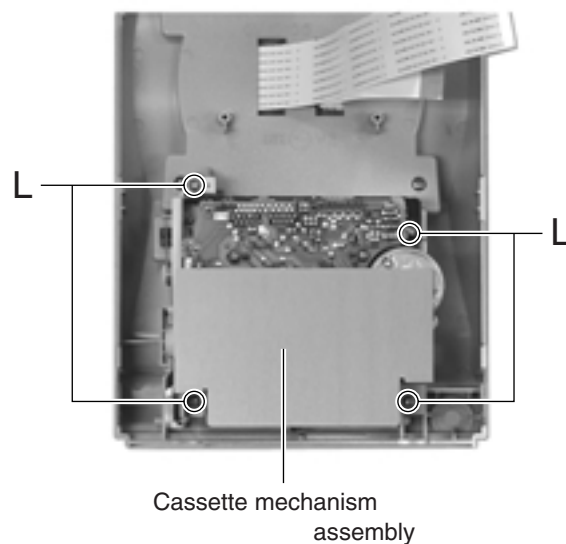

Fig.18
■ Removing the Cassette mechanism assembly (See Fig.18)